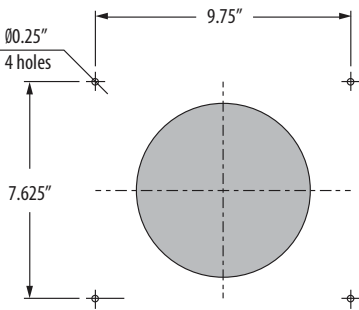

Figure 9
8. Mark the fastening holes for the exterior-mounted hood and drill holes for the wall anchors as show in Figure 9. For convenience of marking, use the back part of the exterior-mounted hood.